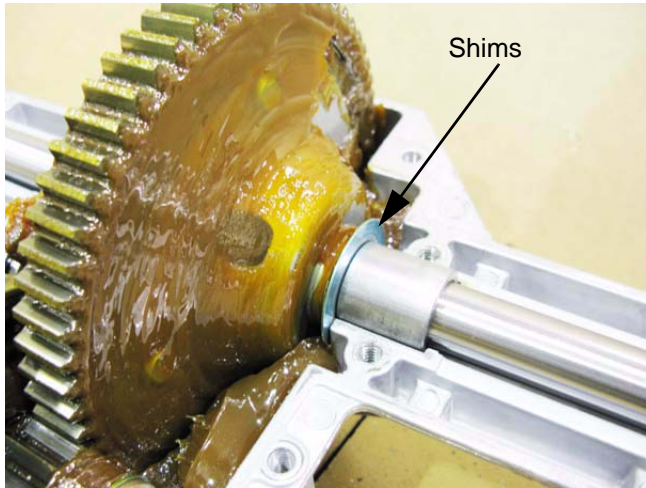

Figure 5.66
9. Lift the axle and differential housing out of the transaxle. See Figure 5.66.